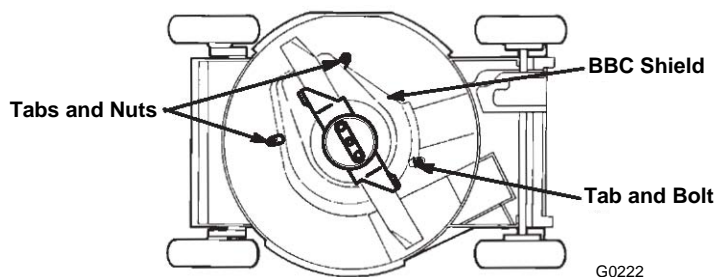

Figure 30
5. Remove the blade nuts, the anti-scalp cup, the accelerator, and the blade (Fig. 30).
6. Loosen the tabs that secure the BBC shield to the deck by loosening the nuts or the bolts on the tabs (Fig. 30). Rotate the tabs 180° to move them out of the way.